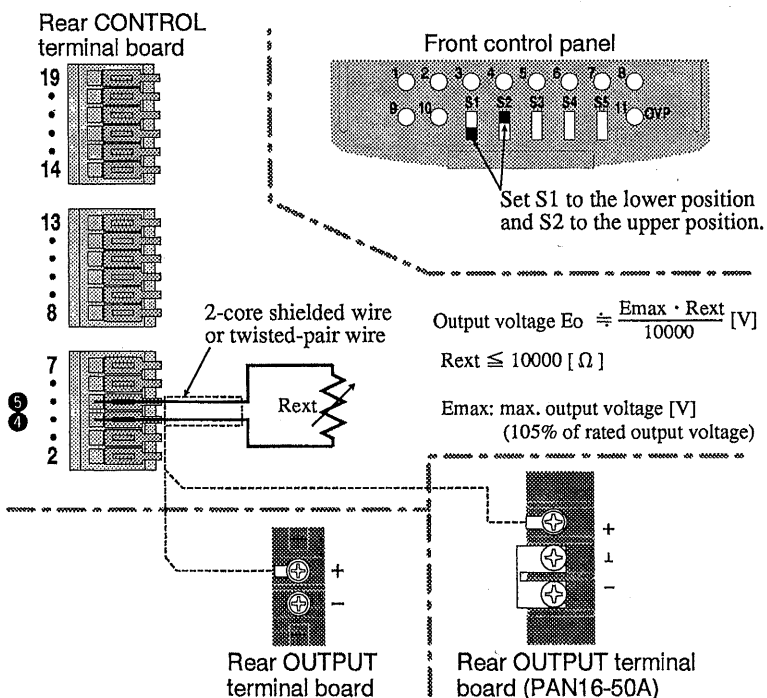

Fig. 3-6 Connection and setup for output voltage control using external resistor
- ① Turn off the OUTPUT switch.
- ② Turn off the POWER switch.
- ③ Set the control switches S1 and S2 as shown in Fig. 3-6.
- ④ Connect an external resistor across the control terminals ④ and ⑤ as shown in Fig. 3-6.